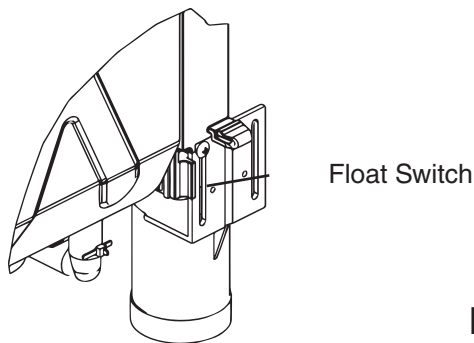

Fig. 11
- 5) Remove the water tank. Next, remove the screw securing the FS, then remove the FS. See Fig. 11.